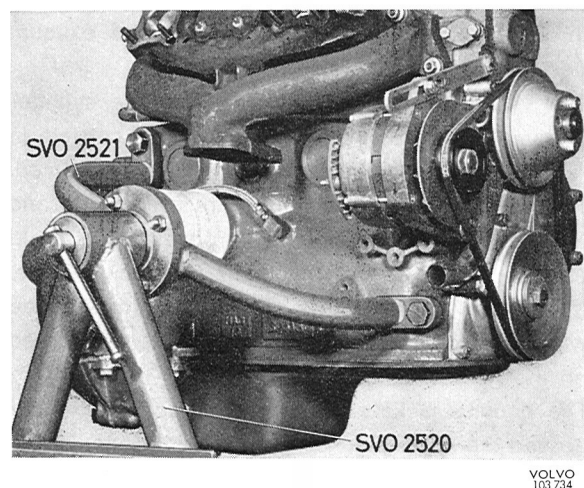

Fig. 2-23. Engine on stand
1. Place the engine on stand 2520 with fixture 2521 (see Fig. 2-23). Check that the oil has been drained.